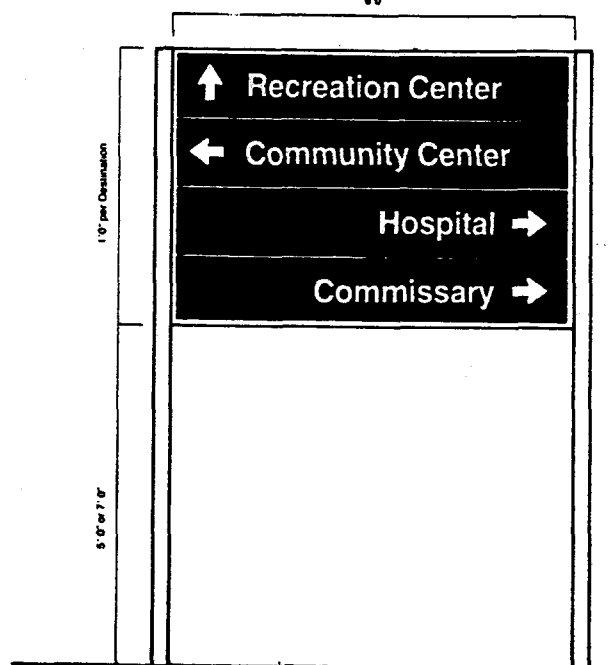

Figure D-1. Direction Signs
1. Directional Signs. This type of sign is used on roadways to direct visitors to key facilities. Graphics generally should appear on only one side of the sign because the sign will be placed in advance of an intersection and will be viewed by traffic moving in one direction only. See Figure D-1.